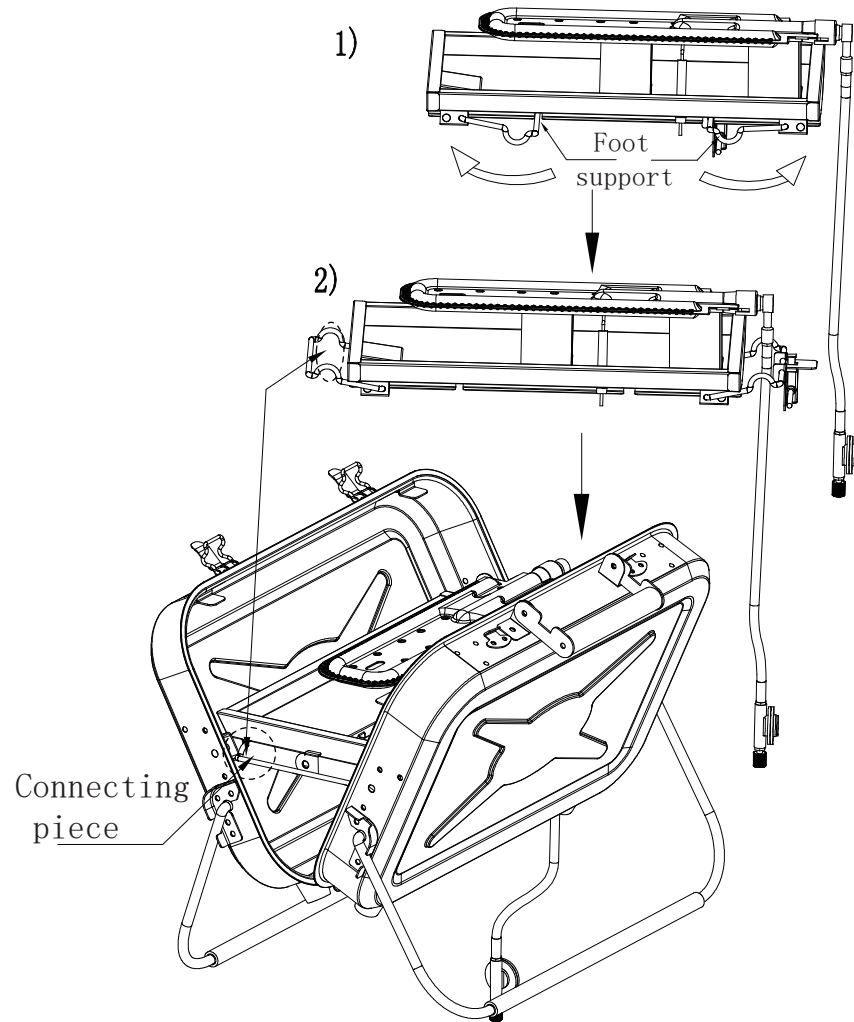

FIG6
- (4) Install the gas circuit assembly as shown in Figure 6.